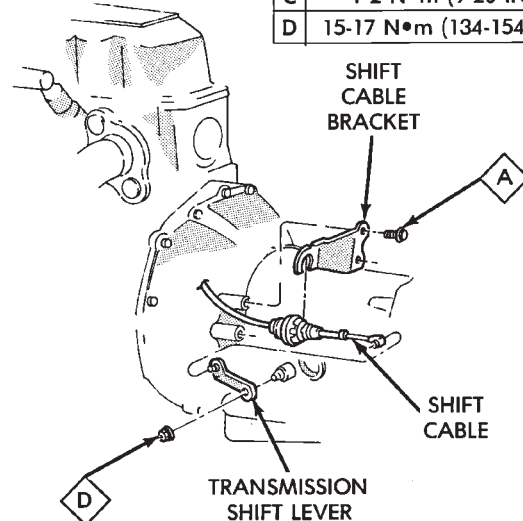

Fig. 46 Shift and Interlock Cables
- (1) Shift transmission into Park.
- (2) Raise vehicle.
- (3) Release cable adjuster clamp to unlock cable (Figs. 46 and 47). Clamp is at transmission end of cable.
- (4) Unsnap cable from transmission cable bracket (Figs. 46 and 47).
- (5) Move transmission shift lever fully rearward to Park detent. Lever is on manual valve shaft at driver side of case.
- (6) Verify positive engagement of park lock by attempting to rotate propeller shaft. Shaft will not rotate when park lock is engaged.
- (7) Snap cable into cable bracket.
- (8) Lock shift cable by pressing cable adjuster clamp down until it snaps into place.
- (9) Check engine starting. Engine should start only in Park and Neutral.
- (10) Lower vehicle.